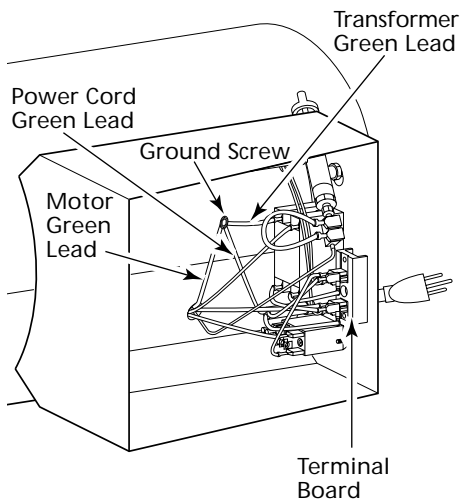

Figure 6 - Location of Ground Screw
2. Access ground screw through underside of heater base. Remove ground screw. Disconnect the green motor wire and the green power cord wire from underside of shell (See Figure 6, page 8).
3. Remove black and white motor wires from terminal board (See Figure 6, page 8).